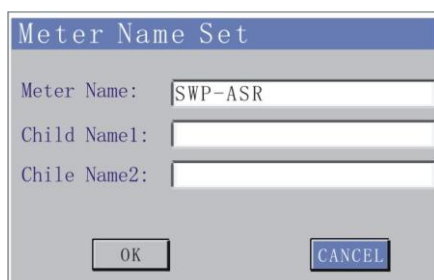

Figure 5-2-20
- 1) Figure 5-2-20, click "Operating record display", It will be show as Figure 5-2-21